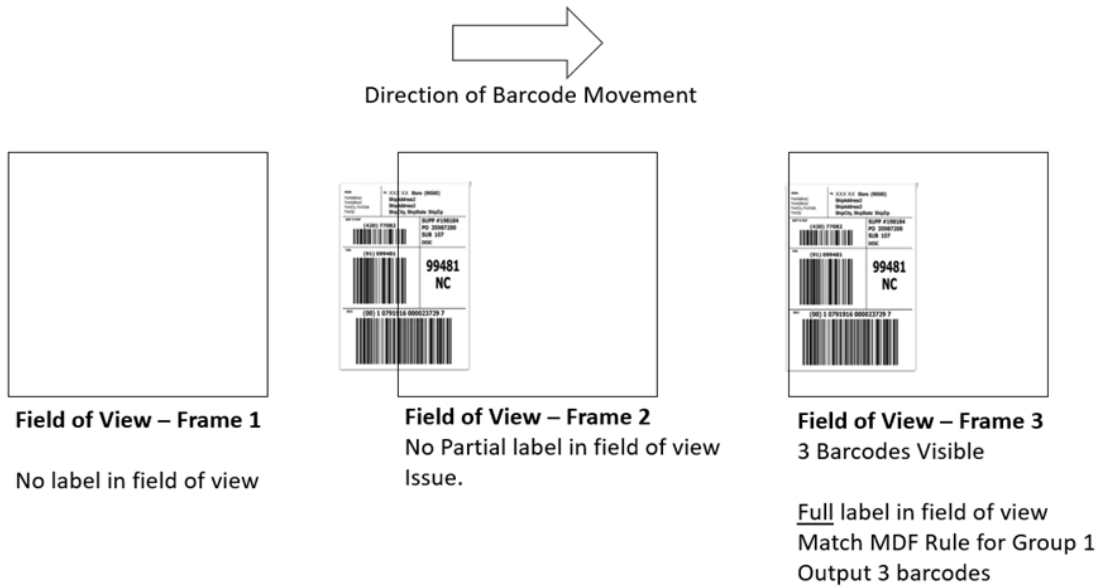

Figure 14-2 Scanning Label in a Vertical Orientation
- Scan barcodes in a vertical orientation (see Figure 14-2).